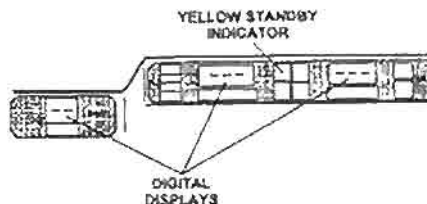

Figure 3-4. Standby mode.
- d. Continue to observe the control panel. The following control panel actions will automatically occur (fig 3-4):
- (1) The three digital displays show "- - -."
- (2) The yellow "STDBY" indicator illuminates.